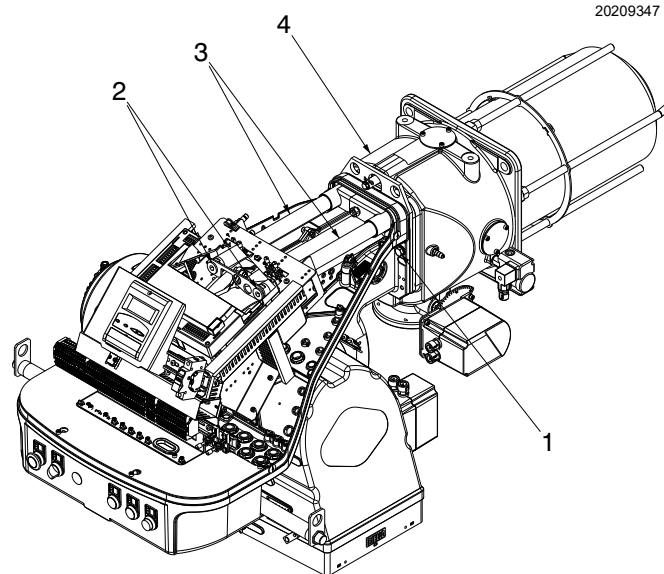

Fig. 23
The combustion head is closed by turning the screw 1) clockwise (Fig. 23 on page 25).
- fit the electrode cable and then slide the burner up to the pipe coupling, the burner in the position indicated in Fig. 23;
- fix the burner to the pipe coupling with the screw 1)(Fig. 23).